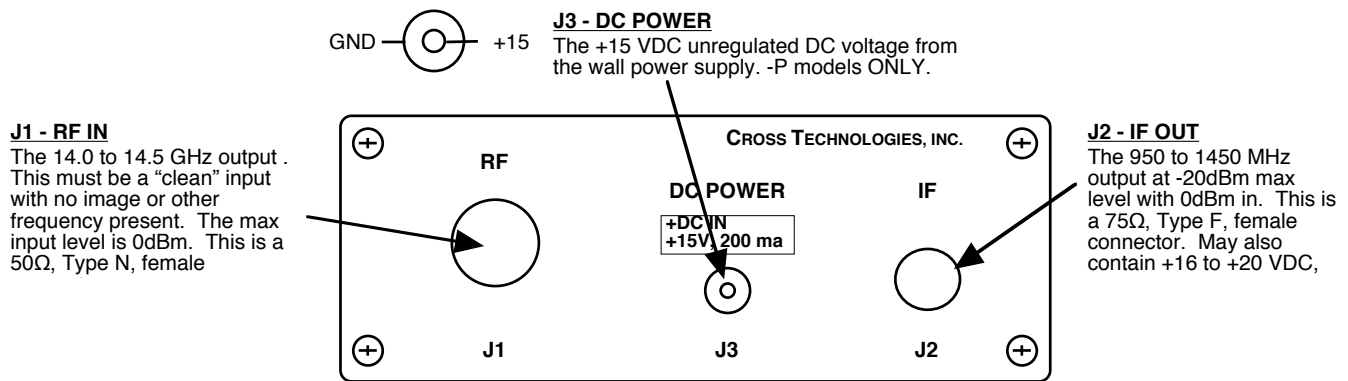

FIGURE 2.3 Model 2009-140 Rear Panel Inputs and Outputs
Figure 2.3 shows the input and output signals to the 2009-140.
1. For **-P** models, connect one end of the Wall Power Supply to the 2009-140 DC Power In, J3, and the other end to 115 VAC, 60 Hz (Figure 2.3).
2. Connect a 0 dBm, maximum, signal to RF IN, J1 (Figure 2.3).
3. Connect the IF OUT, J2, to the receiver under test (For models powered from the LNB be sure that the LNB voltage is +16 to +20 VDC, 280 mA max) (Figure 2.3).